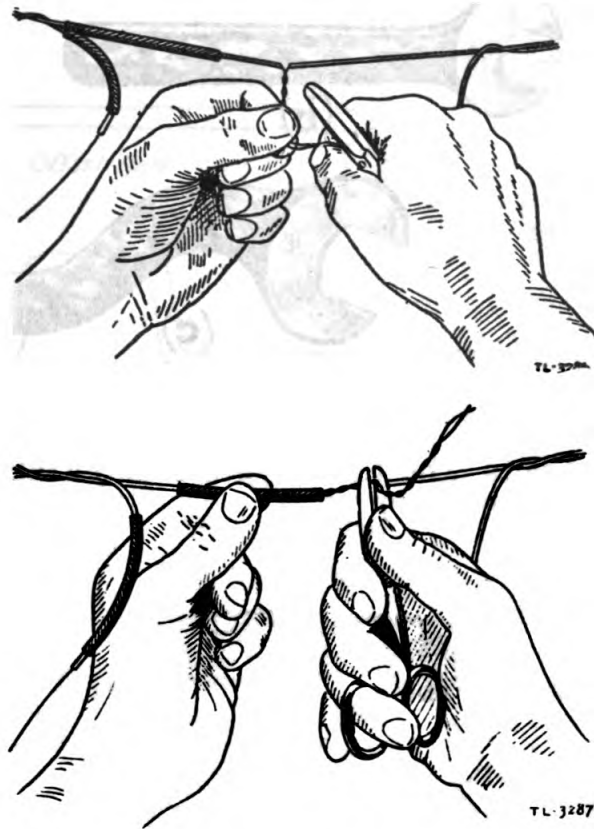

Figure 5
2. Electrician's scissors.—These scissors are a short heavy bladed tool used to cut soft copper wires not larger than 18 gauge and to remove paper insulation from small wires. The back of the blades are corrugated to aid in the removing of insulation and cleaning the wire. The electrician's scissors find their greatest use in splicing cables. These cables have a great many pairs of paper covered wires in them, and if pliers were used to remove insulation it would require a great deal of extra labor in picking them up each time the insulation was removed from a wire, laying them down again to twist the joint and so on. The scissors can be held in the hand, with one finger through one of the loops in the handles and are always ready for use. The method of holding and cutting with the scissors is illustrated in figure 5.